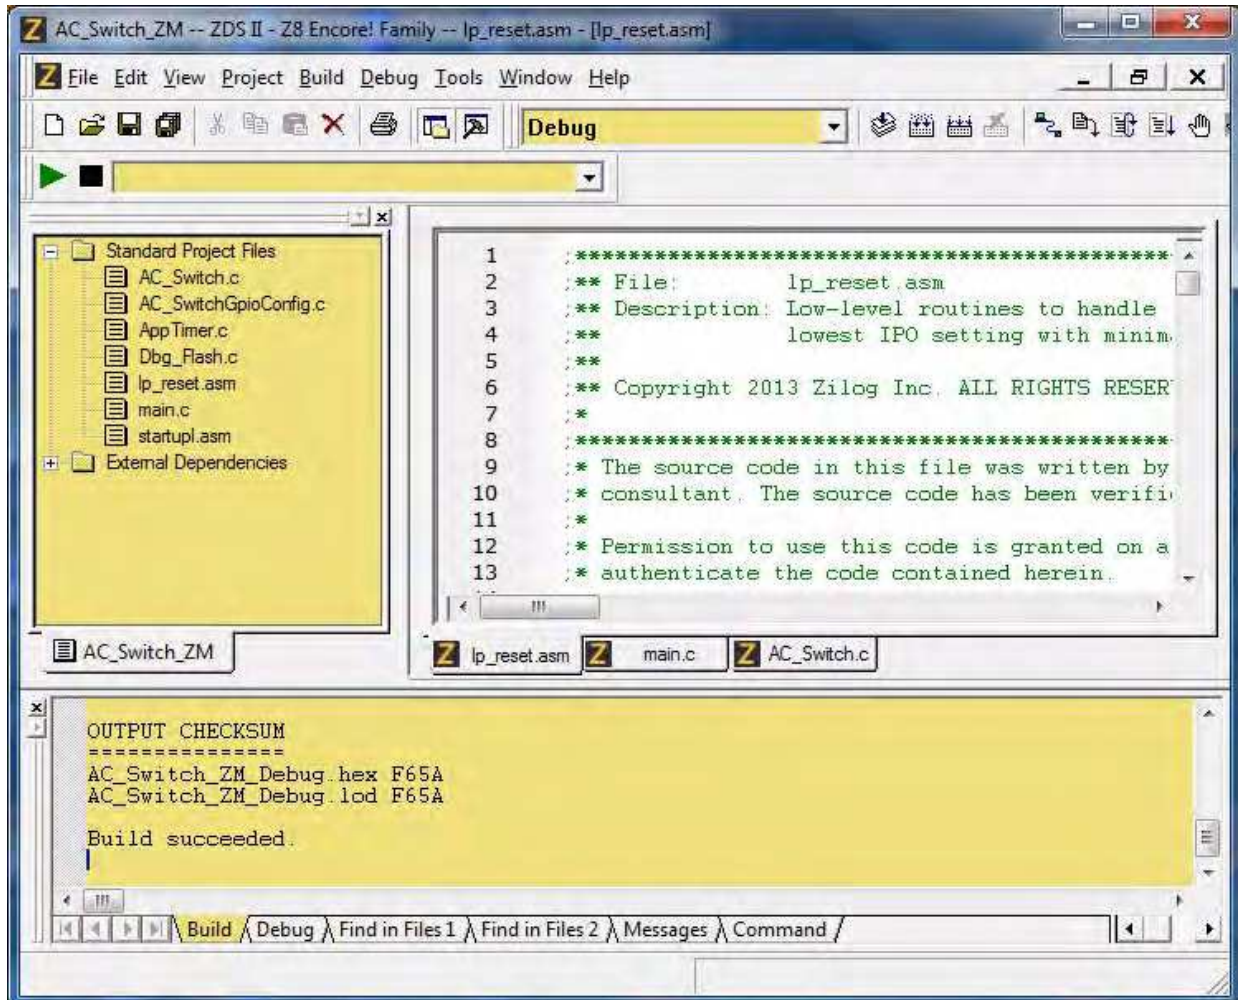

Figure 6. A Successful Build
6. When the rebuild is complete, a Build succeeded message will appear, as highlighted in Figure 6.
► **Note:** The checksum shown in Figure 6 may be different at the time of the software release.